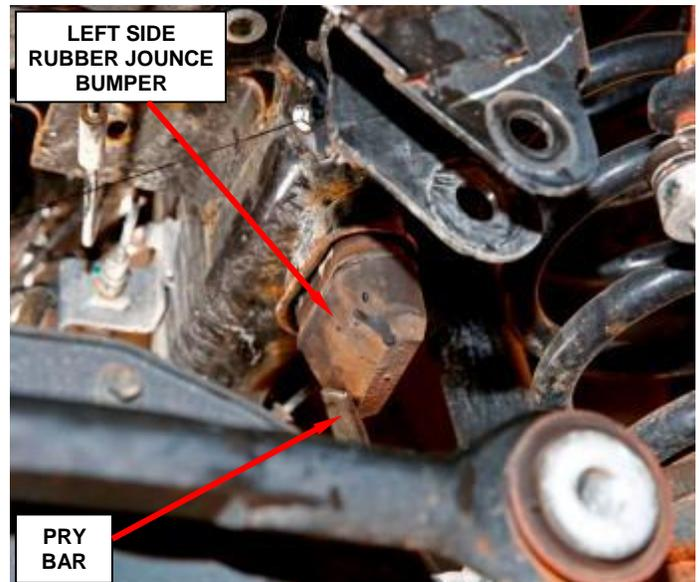

Figure 25 – Remove Left Rubber Jounce Bumper
48. Remove and save the left side rubber jounce bumper (Figure 25).